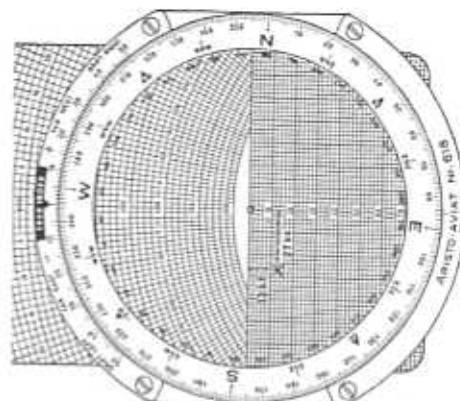

Fig. 59
- (1)  $330^\circ$  to TRUE INDEX
- (2) Set Zero of rectangular grid to center bore.
- (3) Plot wind vector 30 kt downward.
- (4) Set direction of runway  $265^\circ$  to TRUE INDEX.
- (5) Read the cross wind component 27 kt by following the respective horizontal grid lines from center axis to end of wind vector (fig. 59).
- (6) Read the head wind component 13 kt by following one of the vertical grid lines from Zero line down to the end point of the wind vector (fig. 59).